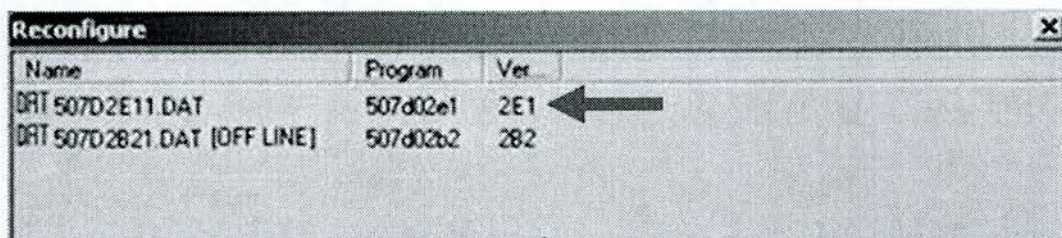

Figure 13
2.9. Select the 2E1 (arrow, Figure 13) software and confirm with 'GO' and then with: **YES**.